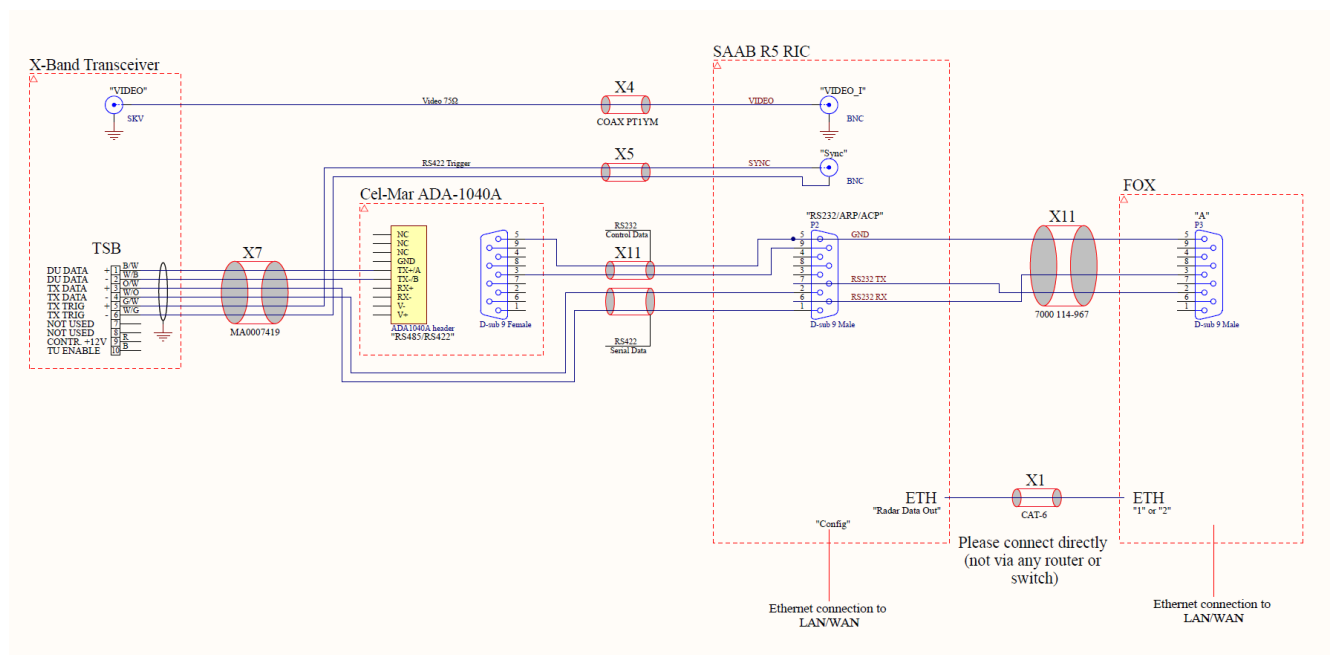

Figure 15, BridgeMaster interconnection schematic (PT-16-0104 C3)
3. Transceiver RX/TX to RS232/ARP/ACP port using cable 7000 114-967 and a RSR232 to RS422 converter according to schematic PT-16-0104. (See Figure 15)